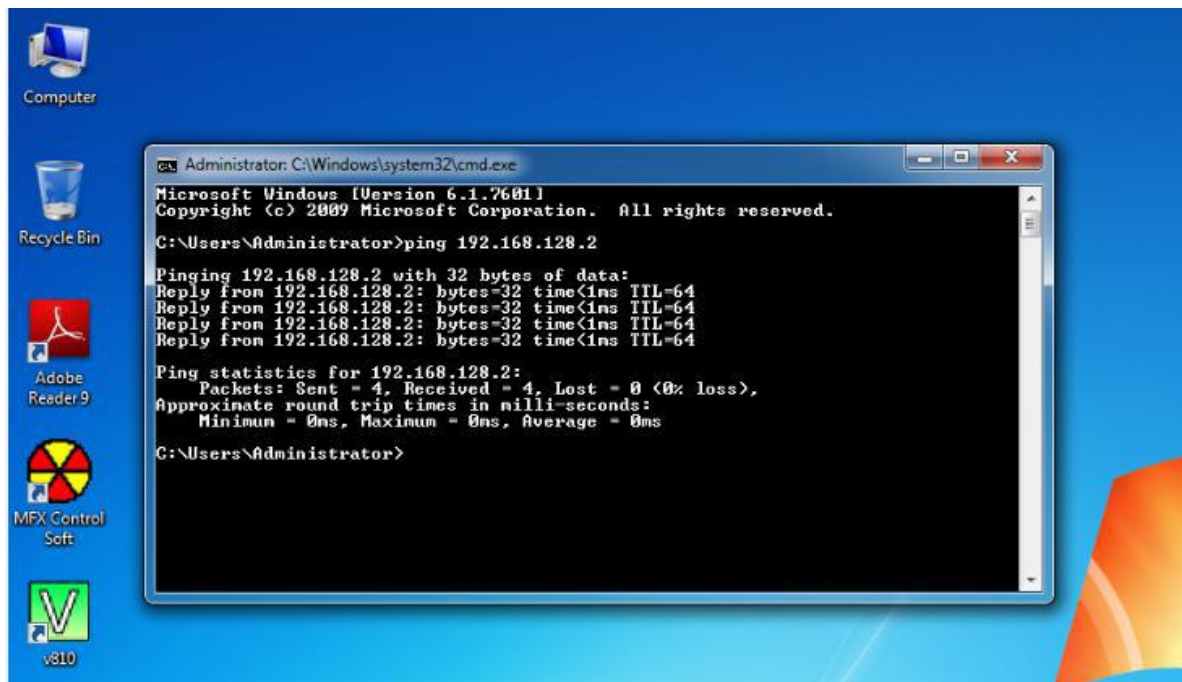

Figure 18 Command Prompt Ping Test
14. Type "Ping 192.168.128.128.XX" (May refer to below camera IP table for applying appropriate camera IP for particular camera) and check any return result as Figure 18